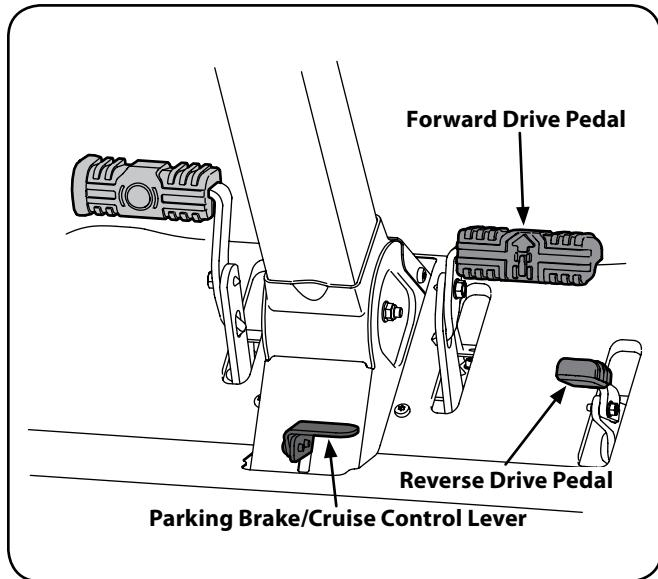

Figure 13
2. To travel FORWARD, slowly press the forward drive pedal  forward until the desired speed is achieved. See Figure 13.
6. To travel in reverse, check that the area behind is clear then slowly push forward on the reverse drive pedal  with the ball of your foot (NOT your heel) until the desired speed is achieved. See Figure 13.